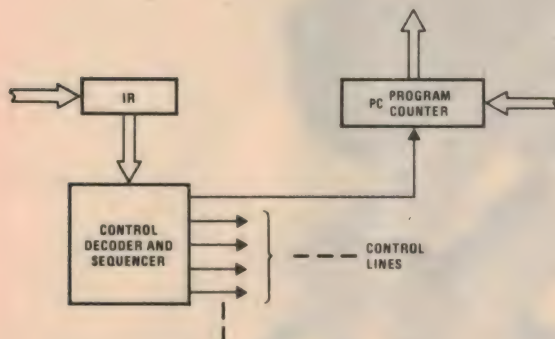

FIGURE 5. Computer Control
The remainder of the CPU, the control portion, is implemented using an "instruction register" (IR), a "control decoder and sequencer", and a program counter (PC). These are shown in Fig. 5. A machine directive (instruction) is transferred into the IR and is subsequently interpreted by the decoder/sequencer, which issues the appropriate control pulses to the other computer elements.